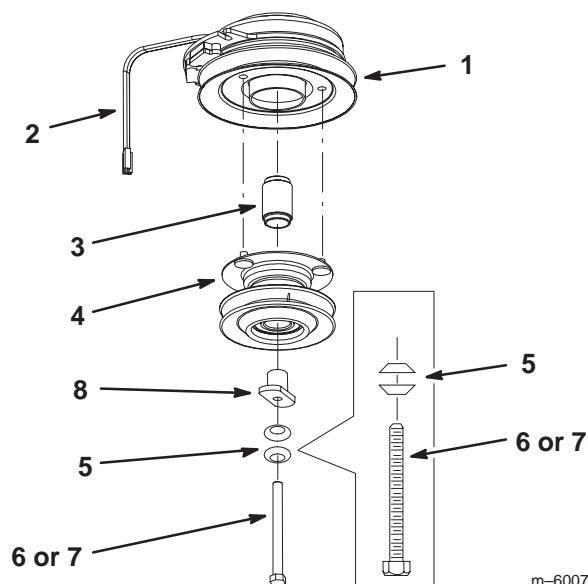

Figure 5
1. Install the new pulley spacer into the clutch (Fig. 5).
2. Install the drive pulley assembly into the three holes drilled into the clutch pulley (Fig. 5).
3. Install the drive spacer into the drive pulley assembly (Fig. 5).
4. If the machine has a Kawasaki® engine, then install the clutch with a bolt, 7/16 x 5-1/2 in., and 2 existing curved washers (Fig. 5).
5. If the machine has a Kohler® engine, then install the clutch with a bolt, 7/16 x 4-3/4 in., and 2 existing curved washers (Fig. 5).
6. Torque the clutch bolt to **55 ft.-lb. (75 N•m)** (Fig. 5).